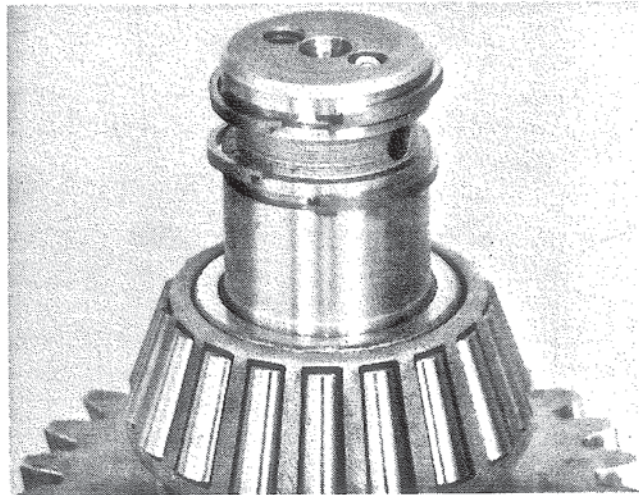

Figure 41. Installing Ring.
7. Install two (2) piston type oil seal hook end rings in the end grooves on the reverse shaft and two (2) similar oil control rings in the end grooves of the forward (input) clutch shaft. Prelubricate the rings. Figure 41.